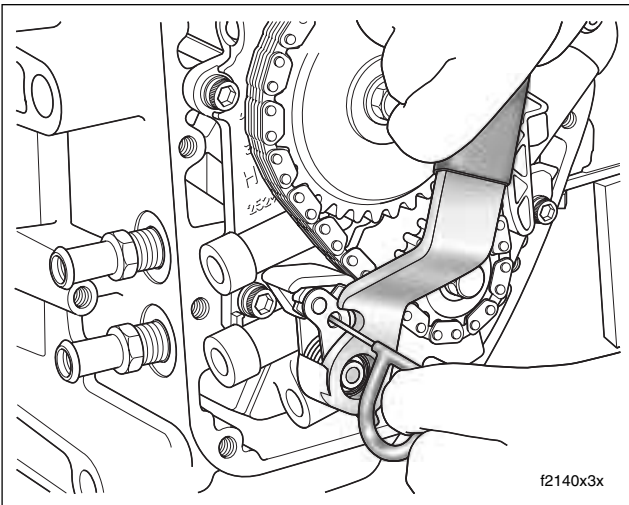

Figure 3-42. Retract Primary Cam Chain Tensioner
- a. With the handle pointing toward the front of the cam support plate, place cup of tool over spring coil. Correctly positioned, the slot in the tool should be adjacent to the hole in the tensioner. See Figure 3-42.